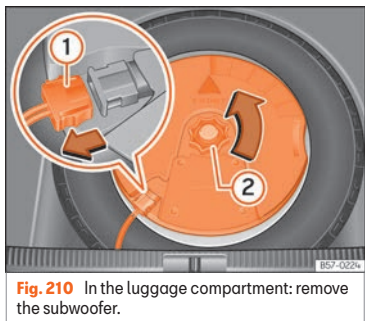

Fig. 210 In the luggage compartment: remove the subwoofer.
- Disconnect the *subwoofer* »» Fig. 210 ① speaker cable.
- Turn the securing wheel in an anti-clockwise direction »» Fig. 210 ②.